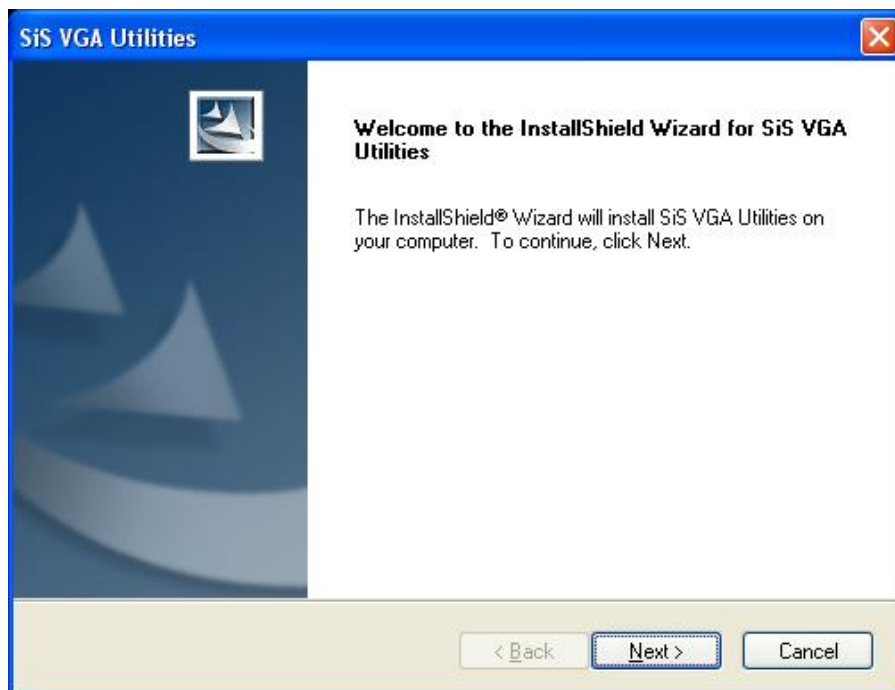

Figure 6-6: VGA Utilities Welcome Screen
Step 7: Then, the welcome screen shown in **Figure 6-6** appears.